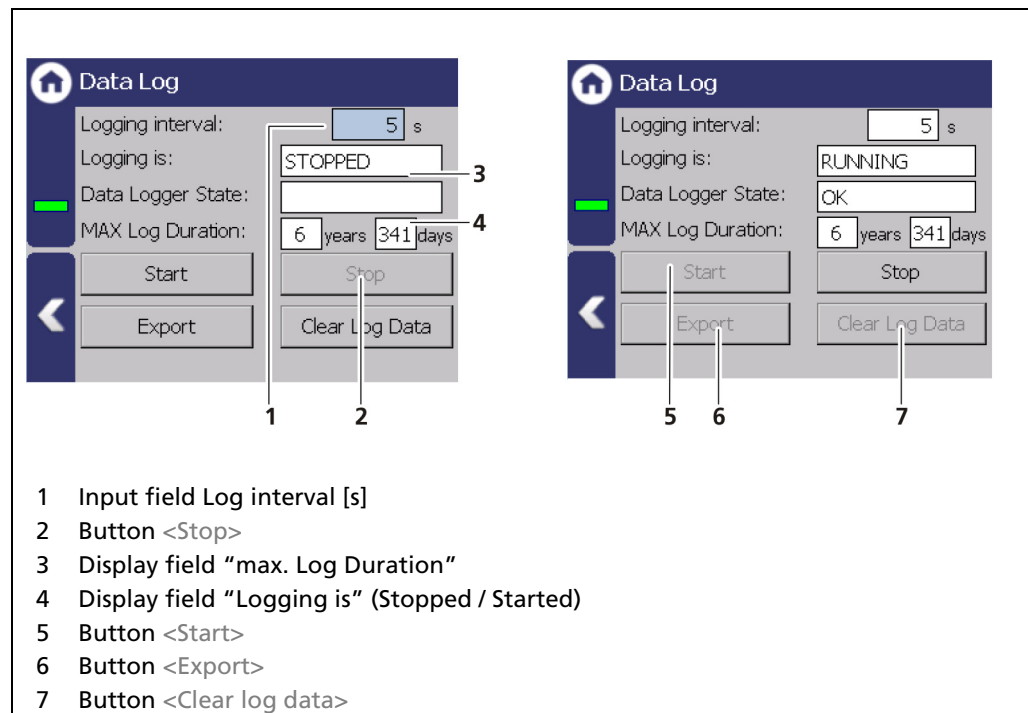

Fig. 110 Data Log
1. Click on a line in the list (Fig. 110, item 3).
2. Click on <?> (Fig. 110, item 6).
3. With the button <Close>, close the event description (Fig. 110, item 10).
With the button <Clear event log> (Fig. 110, item 2) all events are deleted irrevocable.